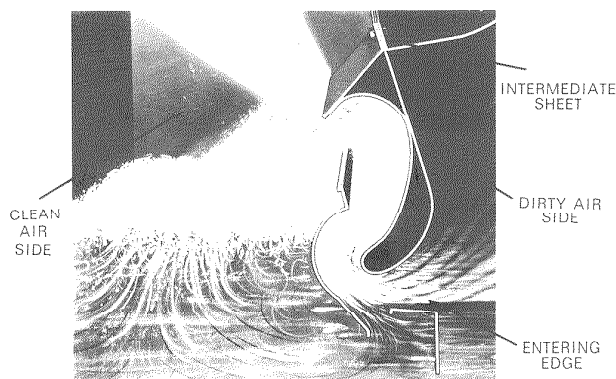

FIG. 1. Cross section of Type N RotoClone Impeller.
The Type N RotoClone cleans the air by the combined action of centrifugal force and a thorough intermixing of water and dust-laden air. The dust is separated from the air by means of a water curtain, created by the flow of air through a partially submerged stationary impeller (see Figure 1). Air flowing through the impeller at a high velocity conveys water with it in a very turbulent sheet. Additional water is introduced at the narrowest portion of the impeller opening through a specially designed slot in the bottom. Since there is a certain pressure drop through the impeller, the water flows upward through the slot in an attempt to reach the water level on the clean air side. This water flow upward through the slot creates increased interaction between the dust and water, thus, increased collection efficiency. Since the water flows upward in an attempt to reach the level on the clean air side of the impeller, the impeller opening can be decreased (resulting in higher pressure drop and collection efficiency) by raising the water level in the unit.
This is accomplished by means of an exclusive and patented variable water level control box. The centrifugal force exerted by rapid changes in direction of flow causes the dust particle to penetrate the water film and become permanently trapped (Figure 1).
NOTE: This level can be checked by filling the unit with water until the level reaches the entering edge (Figure 1) of the impeller. This entering edge should be level with the water along its entire length with maximum variation of 1/8" plus or minus. (See Item A, Operating Instructions.)
b. Set cleaning section in place so its bolting flange matches hopper flange. Lower carefully watching for interference between intermediate sheets and impellers. Walls of interior center section, formed by the two intermediate sheets must be inside impeller bolting surface (Figures 1 and 3).
- d. Impellers are bolted to intermediate sheets. Before tightening, entering edge (Figure 1) of impellers must be in a straight line. Impellers were aligned at the factory and each impeller section matched drilled with holes in intermediate sheet. Check alignment before tightening the remaining bolts in the slotted holes in impellers and drilled holes in intermediate sheets.